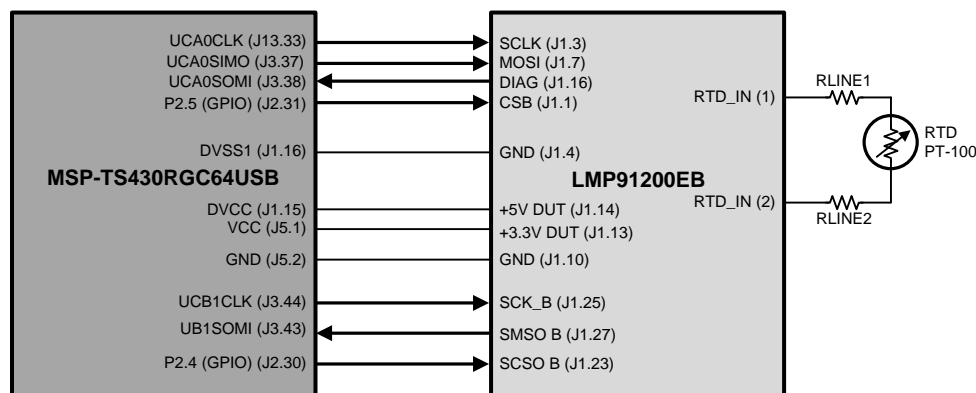

Figure 2. LMP91200 to MSP430 Connection Diagram
9. Connect the LMP91200 Evaluation Board SPI interface lines to the MSP430 target board SPI port as shown in Figure 2. Note that the USCIA0 pins of the MSP430 are used to control the LMP91200 SPI pins.
10. Also, connect the ADC141S626 SPI interface lines of the LMP91200EB to the MSP430 target board SPI port as shown in Figure 2. Note that the USCIB1 pins of the MSP430 are used to control the ADC141S626 SPI pins.